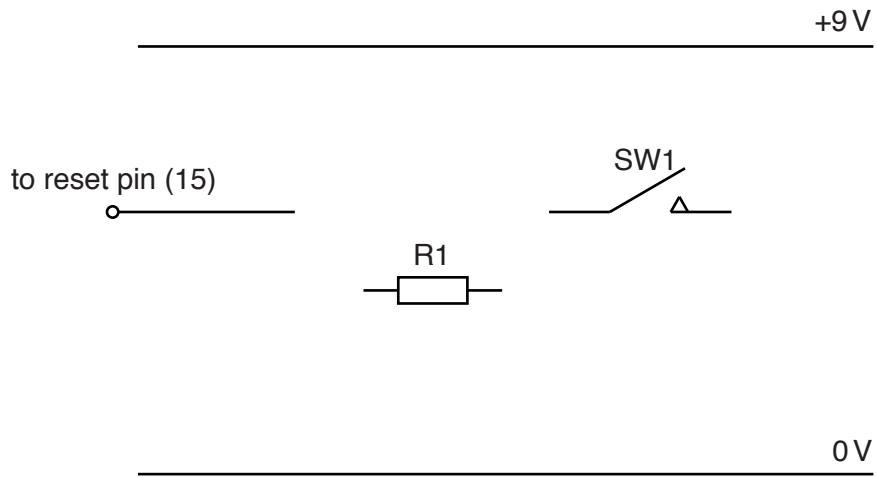

Fig. 21
- (d) When the 4026 IC is counting, the reset pin (15) is connected to 0V. To reset the count to zero the reset pin is connected to +9V. Fig. 21 shows the components used to operate the reset. Add connections from R1 and SW1 to allow the count to take place and then to be reset.